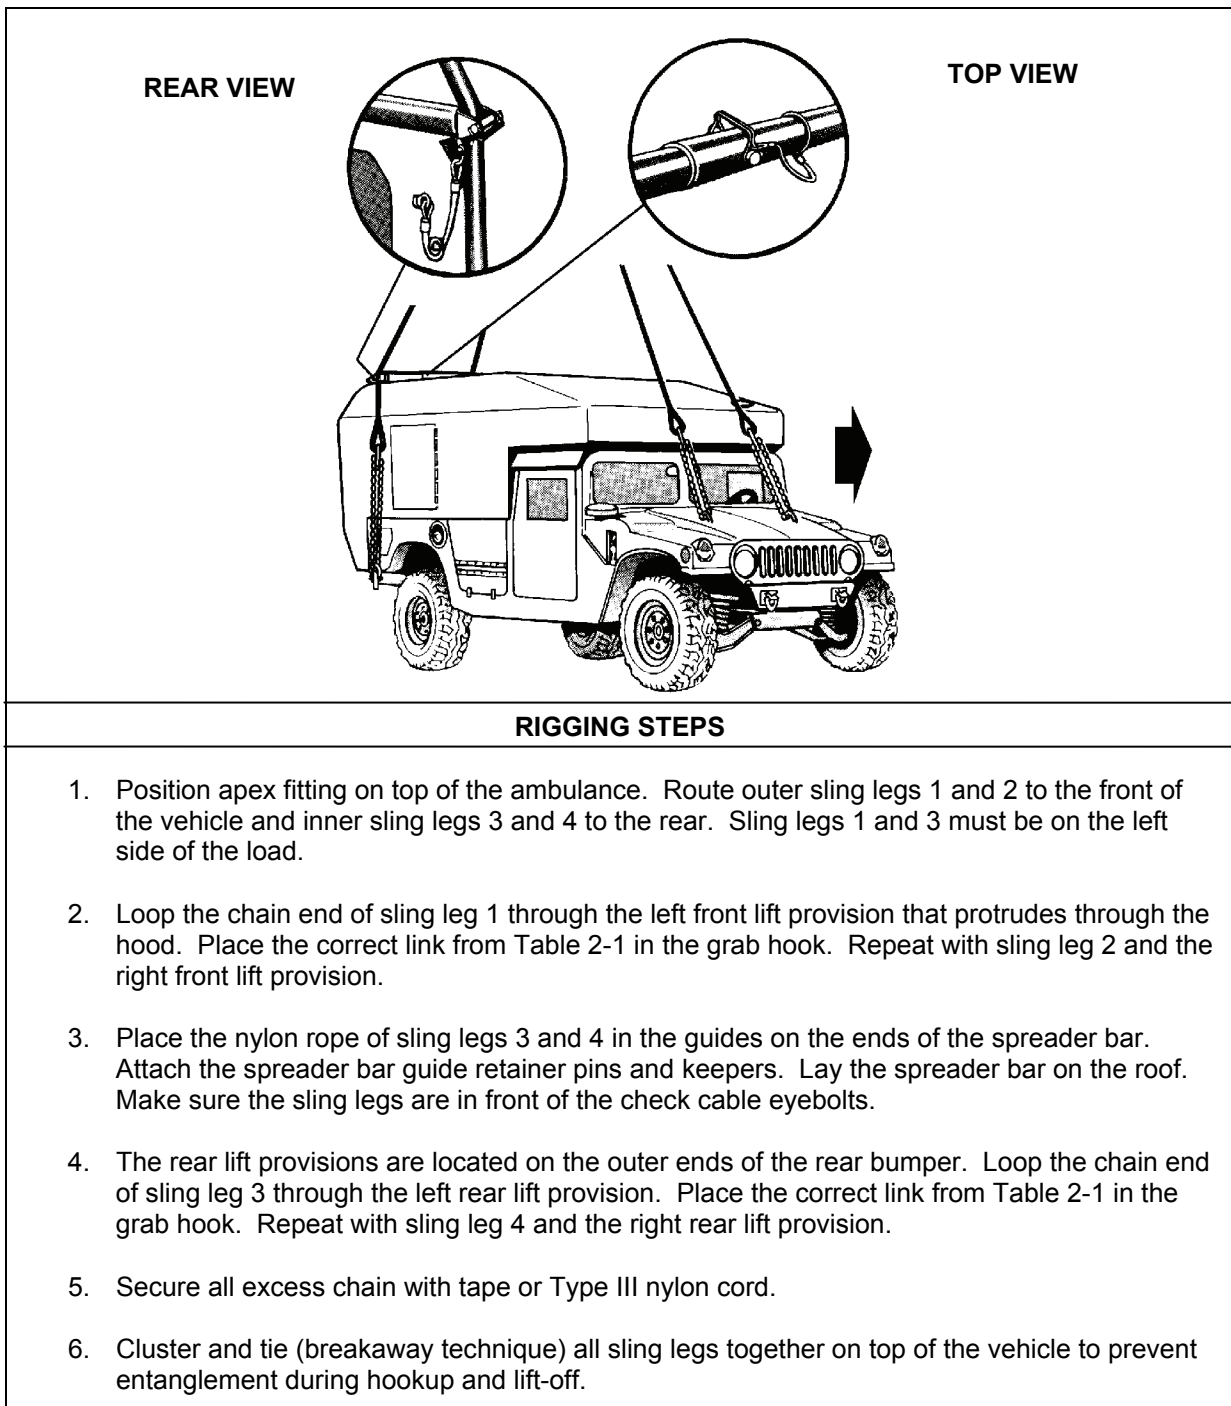

Figure 2-1. M996/M997/M997A2 Ambulance (HMMWV)
- Remove the keeper from the spreader bar and extend the bar so the holes line up. Reinstall pin and engage keeper. Use the sighting hole in the tube to assist in aligning holes for the pin. See top view insert in Figure 2-1.
- Position the spreader bar across the rear end of the vehicle roof. Attach the spreader bar check cables to the eyebolts located on the aft exterior sidewall of the rear compartment. See rear view insert in Figure 2-1.
- **Rigging.** Rig the load according to the steps in Figure 2-1.